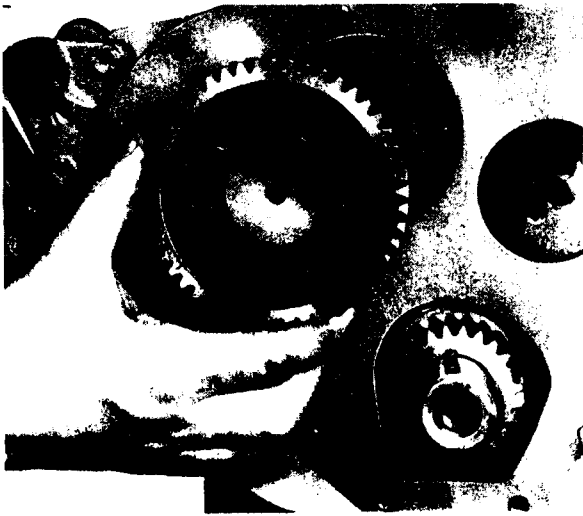

Fig. L.5.
2. Refit gear to camshaft ensuring that 'D' marks on gear and camshaft hub align as shown in Fig. L.5. Refit the three securing setscrews and tighten to a torque of 19—21 lbf ft (2.6—2.9 kgf m).